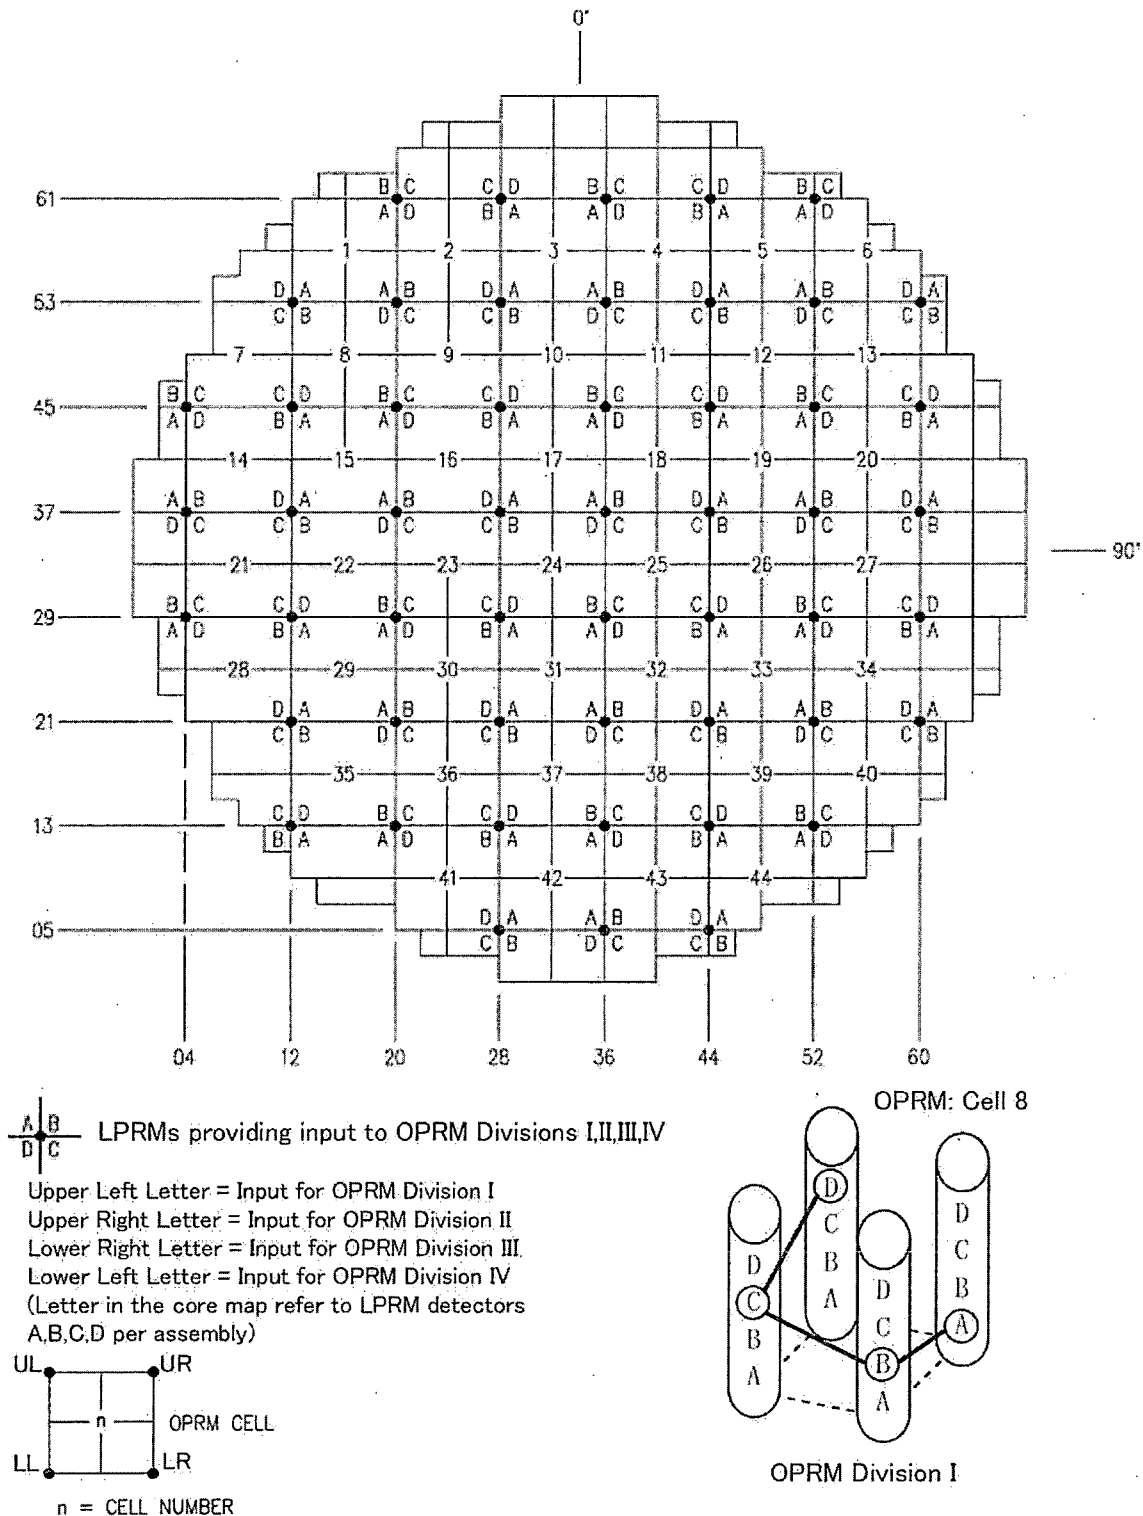

Figure 5.1 Core Map and OPRM Cell
A second-order Butterworth filter is applied to the 52 LPRM input signals (LPRM Levels) for noise removal (Filtered Flux). The CELL module assigns LPRM Levels to the OPRM Cells in accordance with the OPRM Cell Information Table (See Figure 5.1 and Tables 5.1-1 and 5.1-2.).
* Refer to Figure 5.1